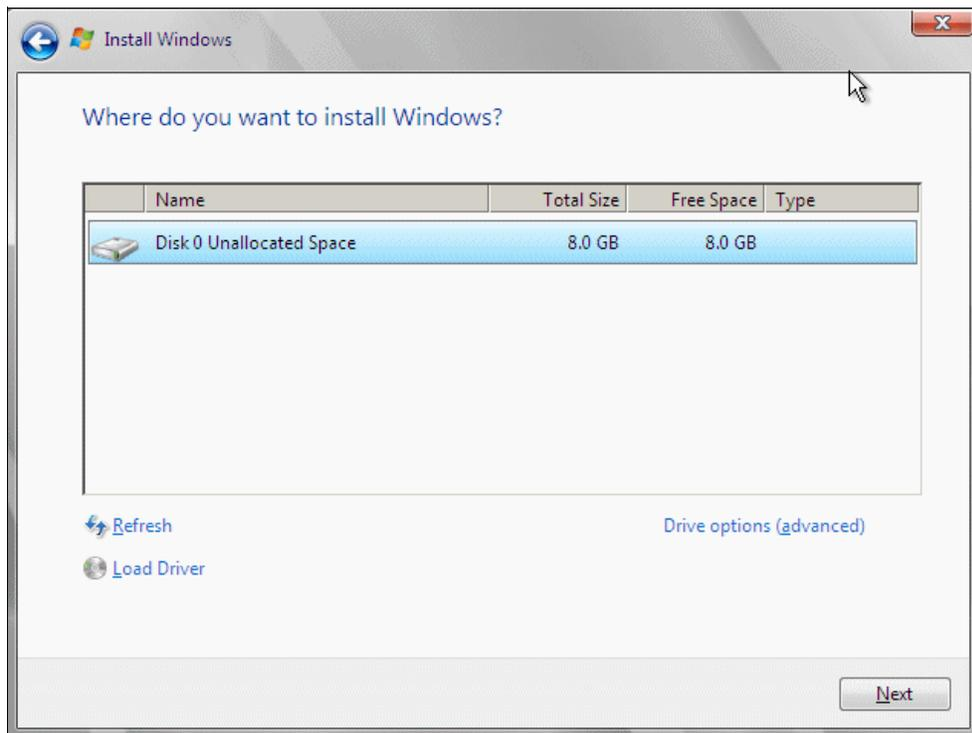

Figure 18-44 Where do you want to install Windows? window
7. If the window that is shown in Figure 18-44 does not show any hard disk drives, or if you prefer to install the HBA device driver now, click **Load Driver**.